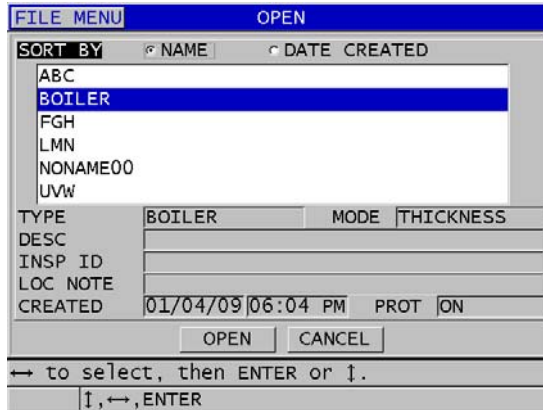

Figure 11-16 Opening a file
3. In the **OPEN** screen (see Figure 11-16 on page 185):